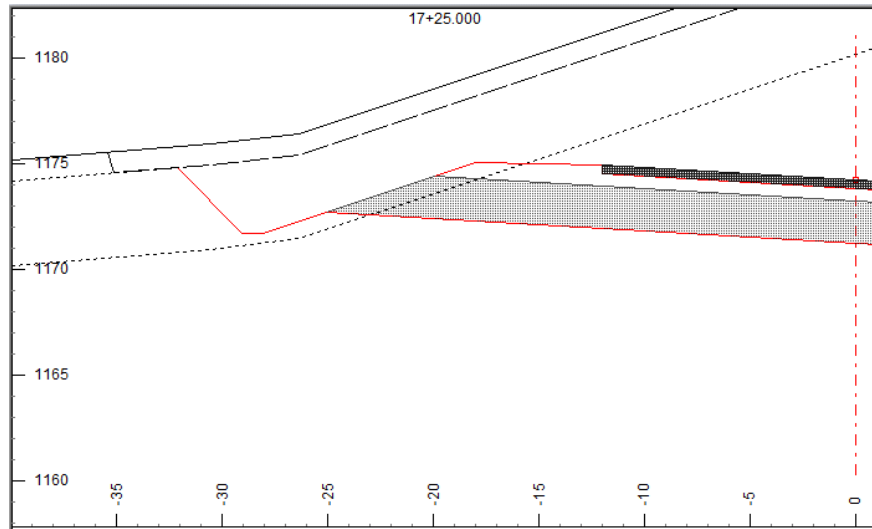

Figure 18-6: The Top Ground Layer has to be *Stripped Off*
4. Set the *Outside* controls to *Slope stake - base*, Offset: **3** feet (both sides as in Figure 18-6). This will strip 3 feet outside the template footprint.
7. Zoom in on the cross section left or right-hand side. Notice that the stripping line is displayed (Figure 18-6).